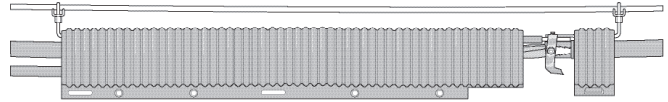

Figure 1
6. Position the end pieces over the hanger bracket and against the ends of the bond bar with the hinge on top. Center the cables through the ports of the end pieces. Press half shells together at branch cables to engage latch. Install the TRACE extension body and fasten latches/bolts. (Figure 1)